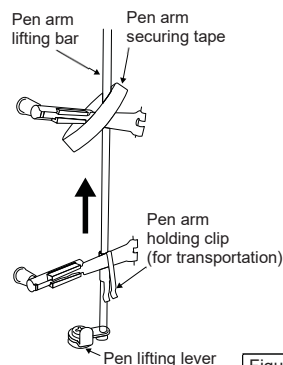

Figure 5
2. Lift the pen arm holding clip upward to remove it from the pen release bar (Figure 5).